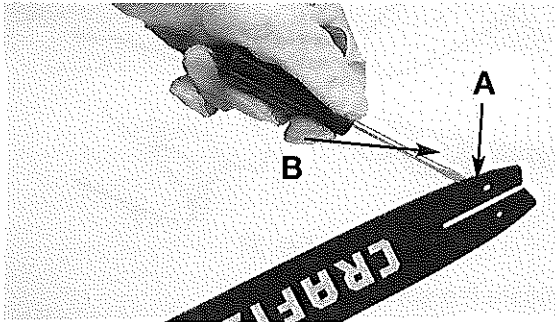

Fig. 38
BAR GROOVES (B) Bar grooves (or rails which support and carry the chain) should be cleaned if saw has been used heavily or if saw chain appears dirty. Rails should always be cleaned every time saw chain is removed.(fig. 38)
OIL PASSAGES (A) Oil passages on the bar should be cleaned to ensure proper lubrication of the bar and chain during operation. This can be done using a soft wire small enough to insert into the oil discharge hole.(fig. 38)